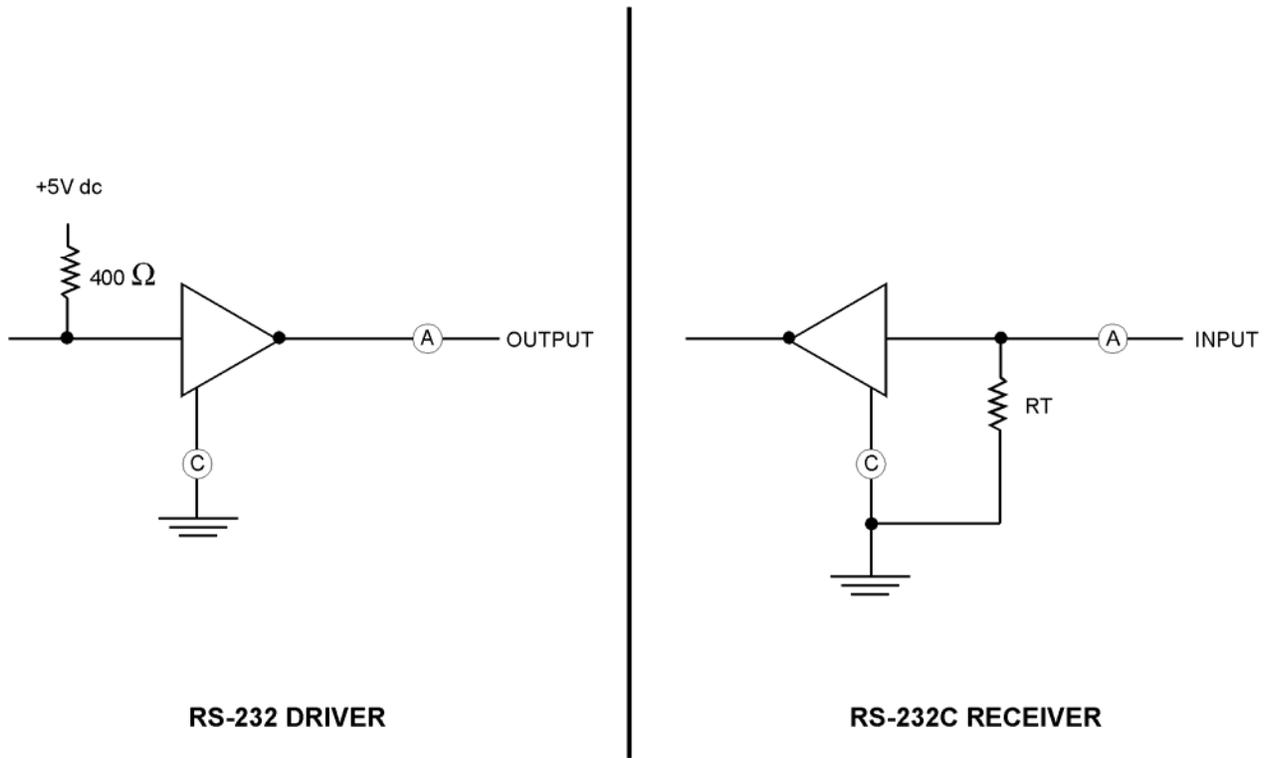

Figure 7-3. RS-232C Driver/Receiver Interface
7.3.1.3. Printer Driver. The required voltage absolute value of the driver output voltage is from 3 Vdc to 15 Vdc into a 3K ohms to 7K ohms load at the host. Open circuit voltage shall not exceed 25 Vdc. The maximum voltage difference between signal levels is 1 volt (+3 Vdc plus in volts -3 Vdc minus in volt equals 1 volt difference). Voltage is measured between (A) and (C) (Figure 7-3).
7.3.1.4. Printer Receiver. The printer receiver operates in the correct polarity from +3 Vdc differential voltage between (A) and (C) (Figure 7-3) up to the maximum ± 12 Vdc as described in paragraph 7-3.1.2. The printer receiver provides protection against printing spurious characters when the host is disconnected due to power failure or damaged cables.
7.3.1.5. Driver/Receiver Signal Voltage. Steady-state voltage measured between (A) and (C) (Figure 7-3) is used as a base to check rise and fall rates of driver/receiver signal voltage. The following signal voltages indicate correct operating rise and fall rates for the printer.